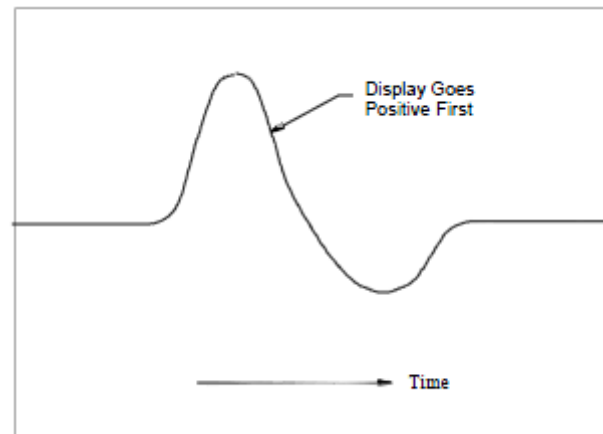

FIGURE 1
Step 3 – Hold the transducer in hand and tap the bottom. The waveform on the oscilloscope first goes positive as shown in Figure 1. If the waveform goes negative the wiring is reversed, contact PCB for technical support.